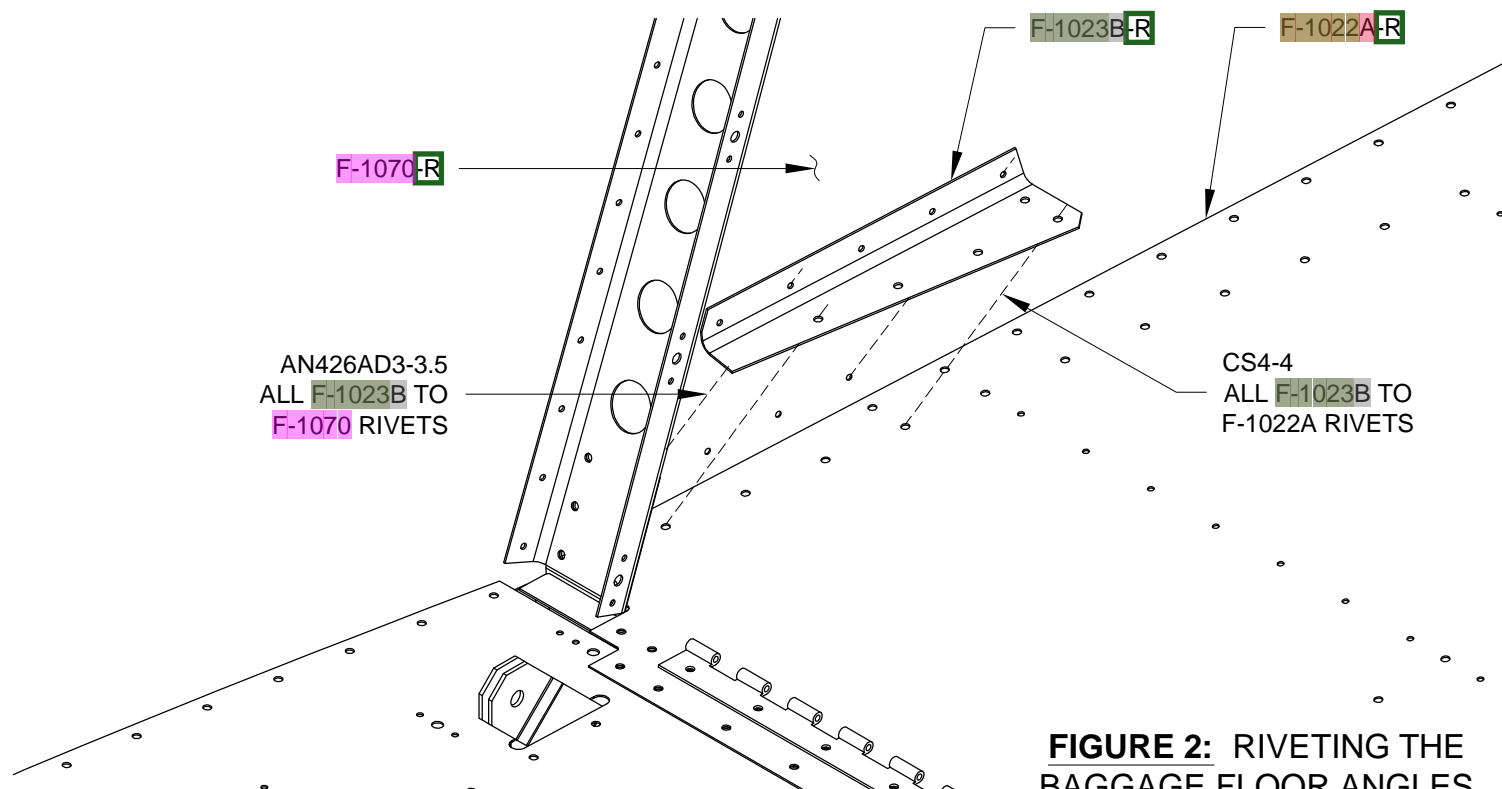

FIGURE 2: RIVETING THE
Step 2: Rivet the two F-1023B Baggage Floor Angles to the F-1022A Baggage Floors and F-1070 Mid Side Skins using the rivets called-out in Figure 2.